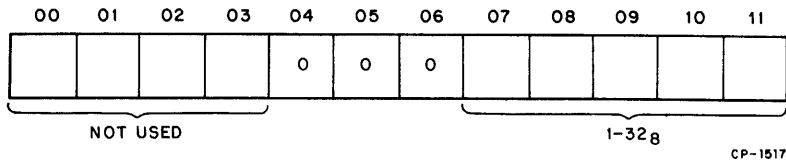

Figure 4-5 RXSA Format (RX8E)
**4.3.4 RXSA – RX Sector Address (Figure 4-5)**